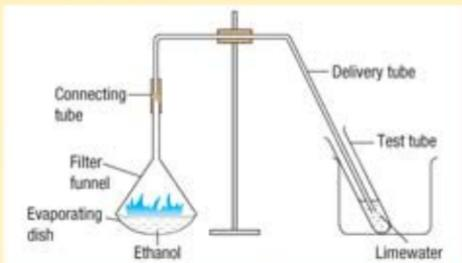

Figure 5.15
2. Ignite the ethanol in the evaporating dish (Figure 5.15).